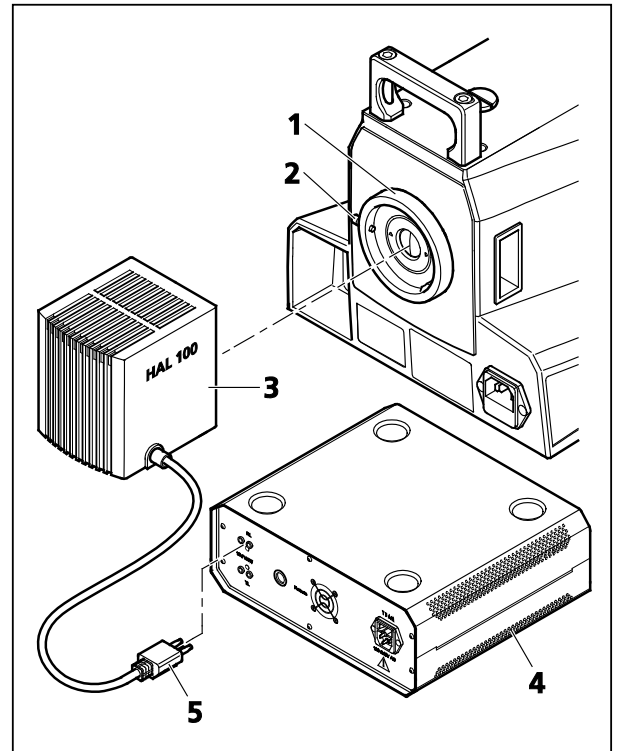
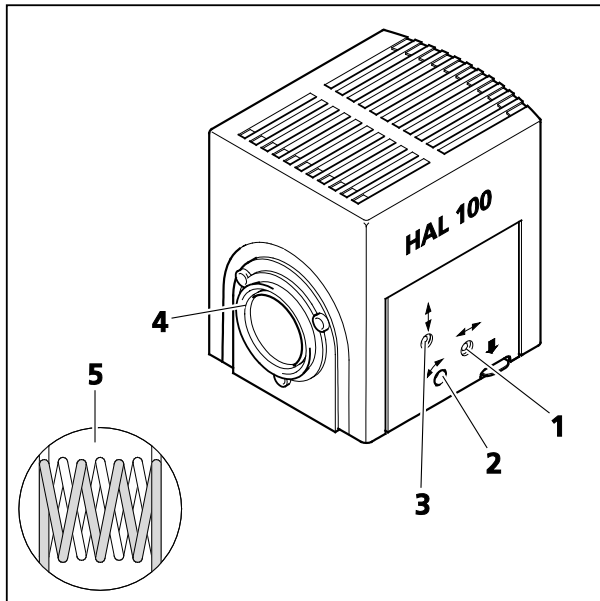

Fig. 3-21 Attaching the HAL 100 Illuminator
Fig. 3-22 Adjusting the HAL 100 Illuminator
- Loosen the clamping screw (Fig. 3-21/2) on the reflected light port (Fig. 3-21/1) and remove the cap.
- Insert the illuminator housing (Fig. 3-21/3) with the dovetail ring into the port (Fig. 3-21/1). Use ball-headed screwdriver SW 3 and the locking screw (Fig. 3-21/2) to fix the illuminator firmly into position.
- Insert the plug of the HAL 100 (Fig. 3-21/5) into the **RL** socket at the back of the external power supply unit (Fig. 3-21/4).
- Loosen the clamping screw (Fig. 3-21/2) and then detach the operational halogen illuminator (Fig. 3-22/4) from the microscope stand.
- Use ball-headed screwdriver SW 3 to set the adjusting screw (Fig. 3-22/1) until both lamp filament images are shown on the projection surface as sharply defined as possible.
- Use the adjusting screws (Fig. 3-22/2 and 3) to align the lamp filaments and their mirror image in such a way to each other that the mirror image fills up the spaces of the lamp filaments (Fig. 3-22/5).
- Remove the eyepiece. Use the adjusting screws (Fig. 3-22/2 and 3) to center the lamp filaments and their mirror image in the pupil image.
- Optimize the overlapping, using the adjusting screw (Fig. 3-22/1).
- Switch off the microscope, remove the plug (Fig. 3-21/3) from the socket (Fig. 3-21/5 - reflected light), and allow the lamp to cool off for approximately 15 minutes.